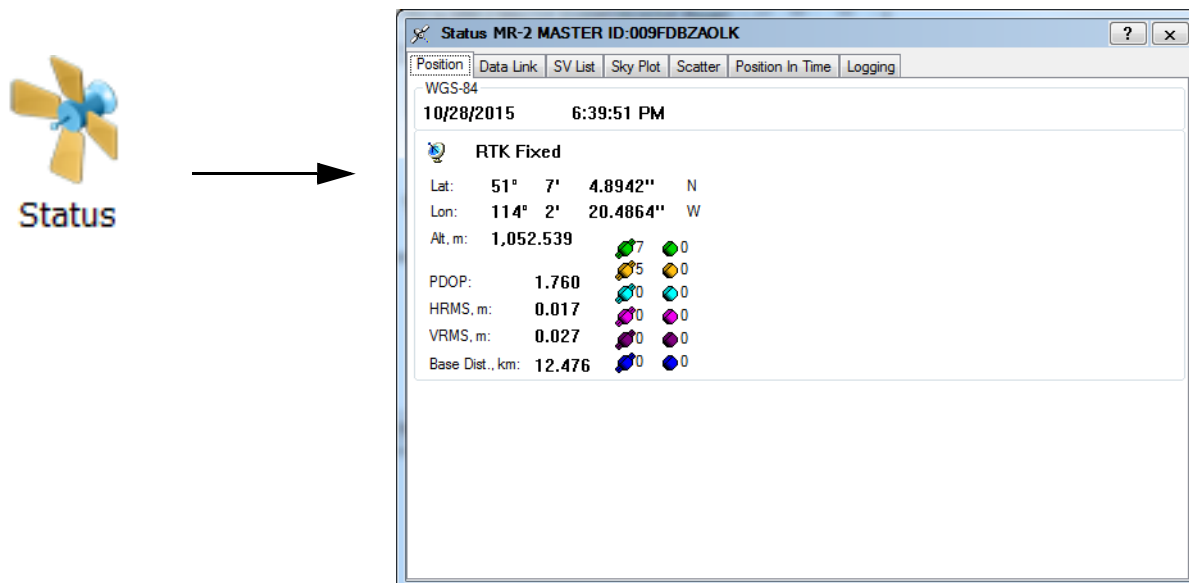

Figure 46: TRU – Main Screen and Status Screen
1. For RTK Rover receivers, click **Status** (Figure 46) to ensure the receiver obtains differential correction. The **Status** screen appears.